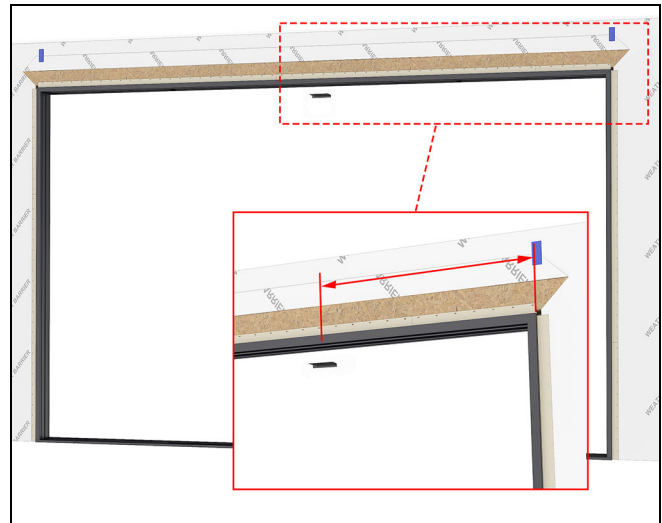

Figure 157 XOOX
1. Measure the net clear opening width of the frame and divide the value by two. Transfer that measurement to the exterior track of the head jamb and center the top stationary bracket at that measurement. See Figure 157.